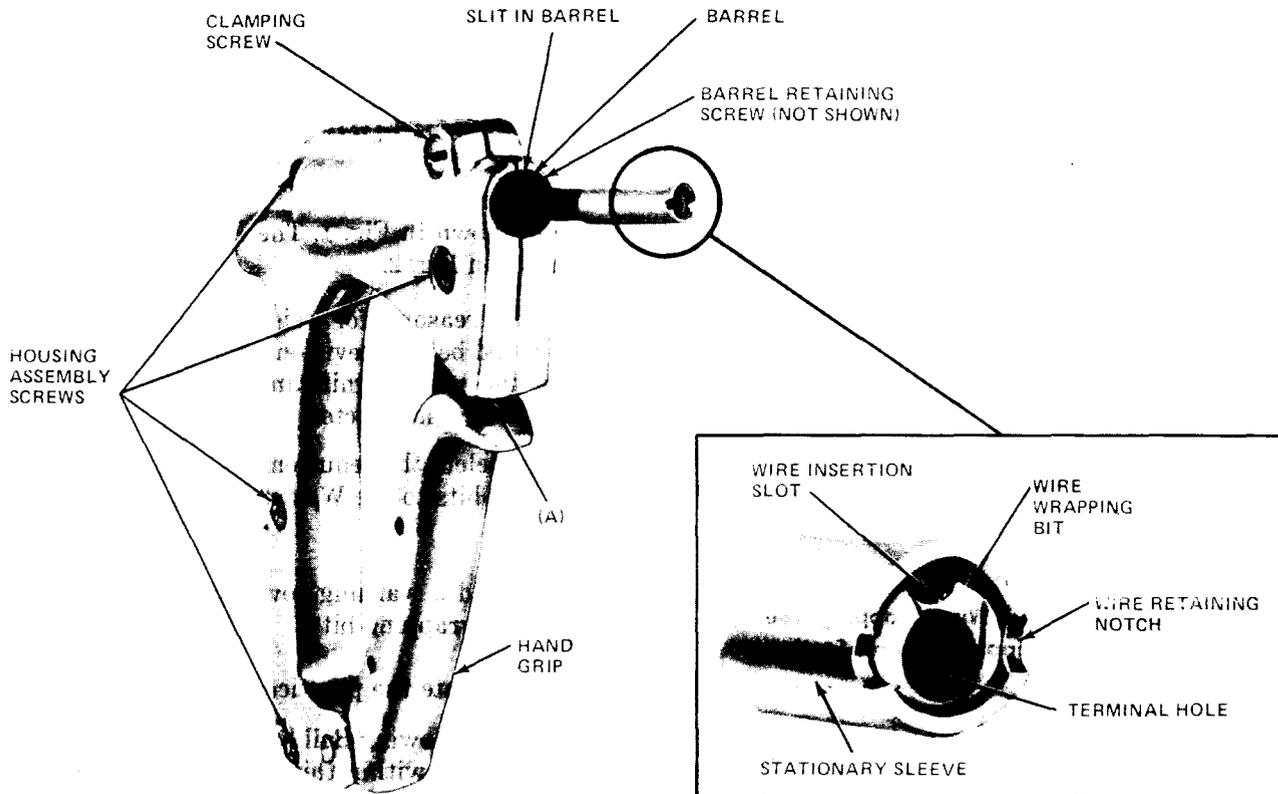
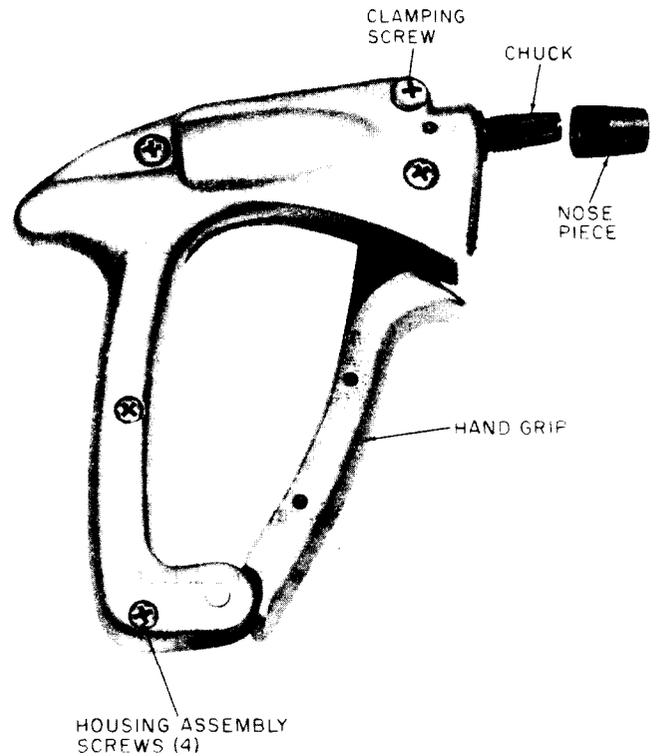

Fig. 1—KS-16363, L1, Hand Wire-Wrapping Tool and Associated Wrapping Bit and Stationary Sleeve
Fig. 2—KS-16363, L2 and L3, Wire-Wrapping Tools
sleeve is shown in Fig. 1. The KS-16363, L2 and L3, are shown in Fig. 2.
1.06 The KS-16363, L2, and L3 (Fig. 2) wire-wrapping tools have a universal hand tightened chuck which simplifies the attachment of the KS-20963 sleeve. This brings the KS-16363, L2 and L3, wire-wrapping tools into conformity with all other Bell System wire-wrapping tools. The KS-21232, L1, electric-powered wire-wrapping tool for 20- through 30-gauge wire also has the same type chuck; therefore, all current and future sleeves will fit interchangeably in either hand tools or powered tools. The old wire-wrapping sleeves, KS-16363, L32 and L33 (Mfr Disc.), will not fit into the new chuck on the KS-16363, L2 or L3, wire-wrapping tools.
(a) The pull required to just move the hand grip from the normal position (Fig. 1, Location A) will be a minimum of 600 grams and a maximum of 1000 grams. To determine this, use the 79B gauge applied to the hand grip adjacent to the housing.
(1) In order to clean and lubricate the wire-wrapping tool, first separate the halves of the housing and remove parts, as covered in (2) through (4).
(2) Place the tool on a flat surface. Remove the clamping screw using the 4-inch regular screwdriver. Remove the four housing assembly screws using the No. 2 B-type screwdriver. Do not remove the barrel retaining screw on the KS-16363, L1, tool, as shown in Fig. 1. Remove the wrapping bit and stationary sleeve.
(3) Carefully separate the two halves of the housing. If necessary, gently pry them apart with the 4-inch E screwdriver at the sections adjacent to the clamping screw hole and near the pivot pin. Take care not to burr the edges of the housing. If